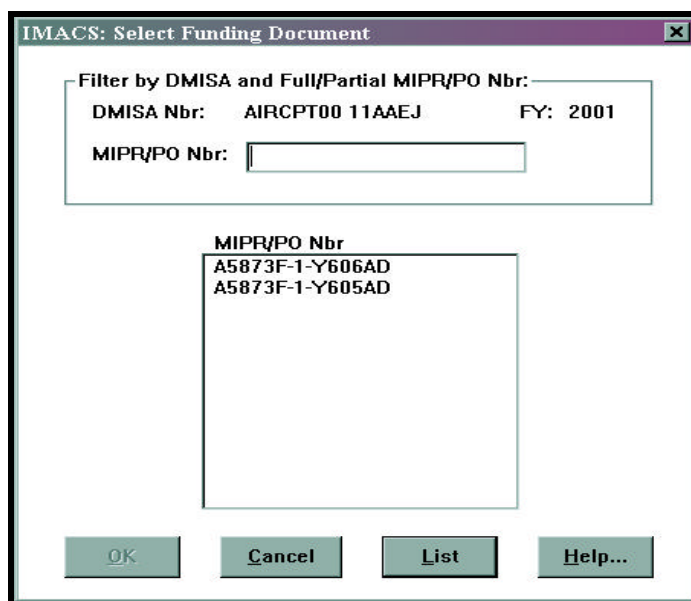

Figure 28-3. Select Funding Document
Step 5. Select the MIPR/PO that funds the selected TAB: Click on the Looking Glass icon next to **MIPR/PO**. The Select Funding Document dialog box displays (see Figure 28-3, Select Funding Document). Select the desired MIPR/PO, and then click **OK** to return the selection to the Exhibit X-B window.